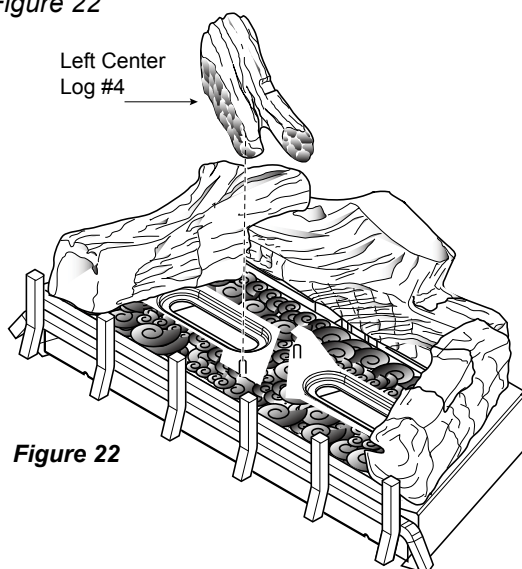

**Figure 22**
7. Align hole in bottom left center log #4 with pin on burner. *Figure 22*